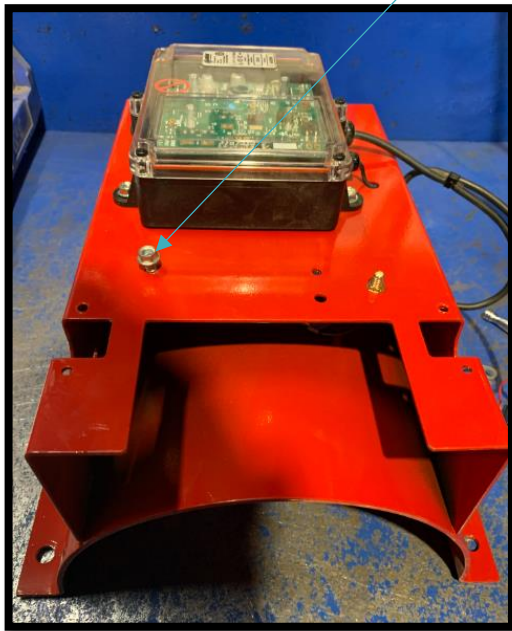

Figure 13
- c. Torque #14 X 5/8" Sheet Metal Screw (19274) halfway on one side, leaving room for Part #20136 (CONTACTOR, 80 AMP) to fit underneath as shown in Figure 13. Then, slide contractor under screw, then torque screw all the way down to secure it as shown in Figure 14.